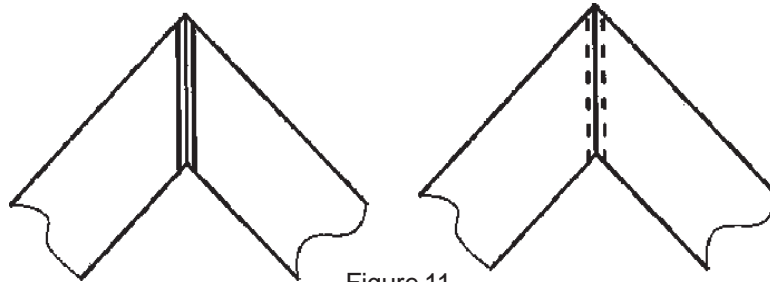

Figure 11
The **Fence** sides can be tilted +/- 3° by turning **Knobs (L)** to accommodate the incline of the rear of the frame or twist in the mouldings. Figure 11 shows exaggerated views of two common problems. The moulding on the left is open at the top. Rotate the **Knobs (L)** counterclockwise to tilt the **Fence** legs to close the gap. The moulding on the right is open at the bottom. Turning the **Knobs (L)** clockwise will help close this joint. In both cases, more pressure may be required on the **Front Clamp**. Correcting such